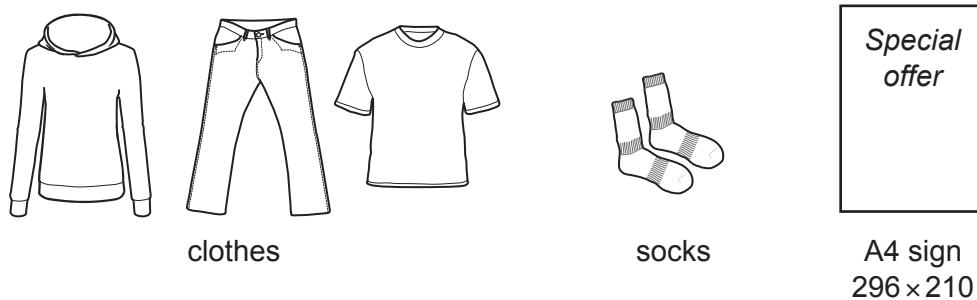

Fig. 7.1
- 7 Fig. 7.1 shows details of the design requirements for a display unit that is to be used in a sportswear shop to sell items of clothing that are on special offer.
- (a) Use notes and sketches to **develop** a design for a display unit for the clothes shown in Fig. 7.1. The display unit must be able to rotate so that customers can view the different types of clothing. [20]